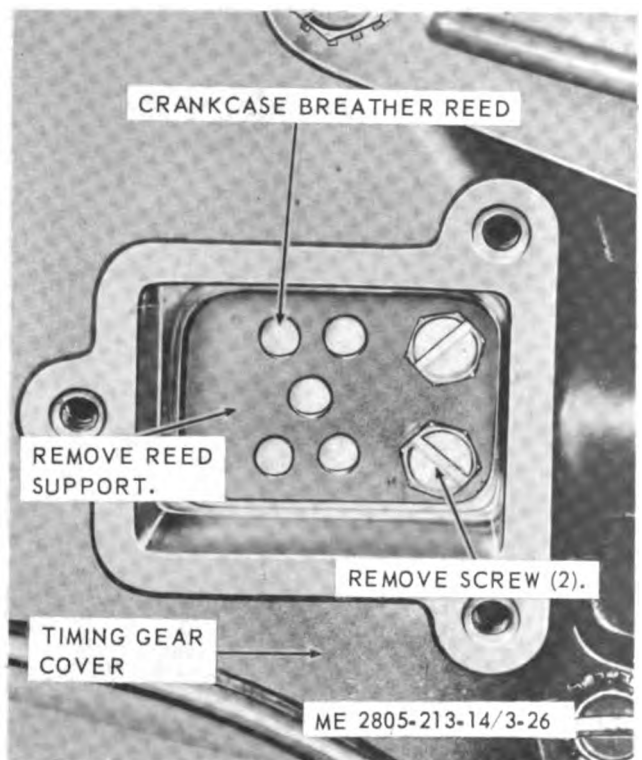

Figure 3-26. Air breather cover and crankcase breather reeds, removal and installation.
- (1) Remove the fan belt guard (para 3-33).
- (2) Refer to figure 3-26 and air breather cover and crankcase breather reeds.
- (1) Refer to figure 3-26 and install the air breather cover and crankcase breather reeds.
- (2) Install the fan belt guard (para 3-33).